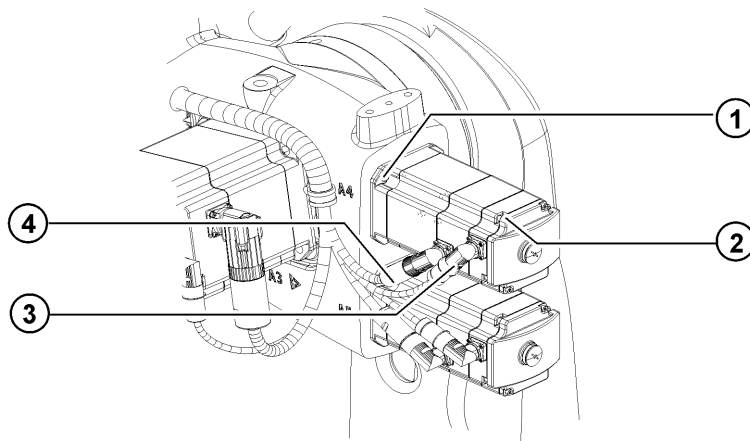

Fig. 11-9: Removing motor A4
1. Release and unplug connectors XM4 and XP4 at the sockets (>>> Fig. 11-9).